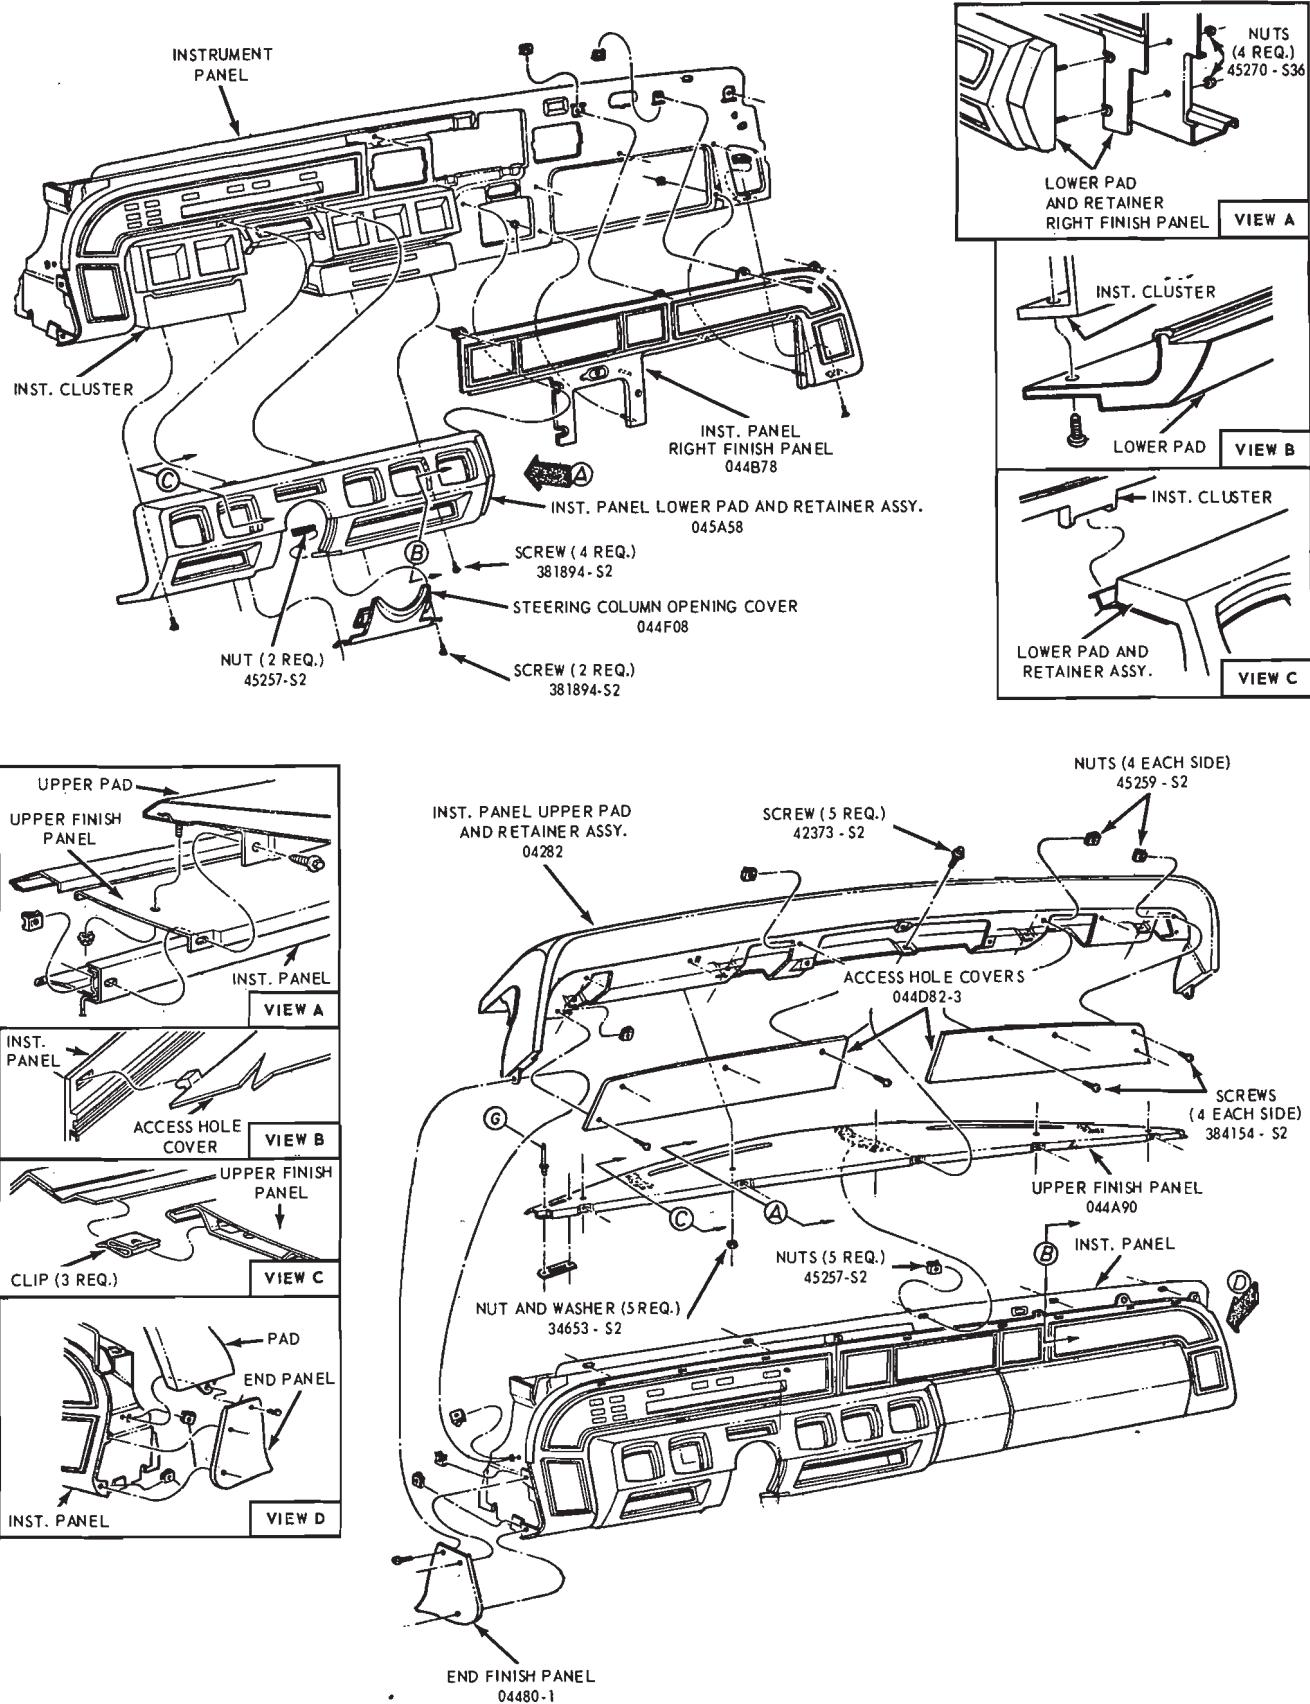

FIG. 11—Instrument Panel Pad Installation—Lincoln Continental
10, Part 47-02). Install the front retaining screw to the left and right roof side garnish mouldings (Fig. 11, Part 47-02).
2. At the left and right ends, an end finish panel is retained by screws to the upper pad assembly and the instrument panel. Remove the screws at each end and remove the end finish panels (Fig. 11).
4. Remove the instrument panel left and right access hole covers from the upper pad assembly (4 screws each, Fig. 11).
5. The instrument panel upper pad assembly and the upper finish panel (Fig. 11) can now be removed as one assembly. Remove the five screws that retain the pad and finish panel to the instrument panel across the front. Pull the entire assembly out forcing the three clips free and remove the assembly from the vehicle.
panel screws (Fig. 11), and transfer the upper finish panel from the old to the new pad. Install the five nuts and glue the insulation to the upper finish panel. Transfer the eleven Tinnerman nuts to the new pad assembly.
2. Install three new clips on the upper finish panel. Position the upper finish panel and pad assembly to the instrument panel making sure that the three clips engage the cowl top inner panel (Fig. 11). Secure the assembly to the instrument panel with the five retaining screws.
5. Install the two end finish panels to the upper pad assembly and the instrument panel (3 screws left side, 2 screws right side, Fig. 11).
Remove the steering column opening cover from the instrument panel (2 screws). From behind the panel, remove the two nuts that retain the right end of the lower pad to the instrument panel (Fig. 11). Remove the four pad-to-instrument cluster screws along the bottom edge. Swing the pad assembly out so as to disengage the two tabs at the top from the grooves at the top of the cluster and remove the pad assembly.